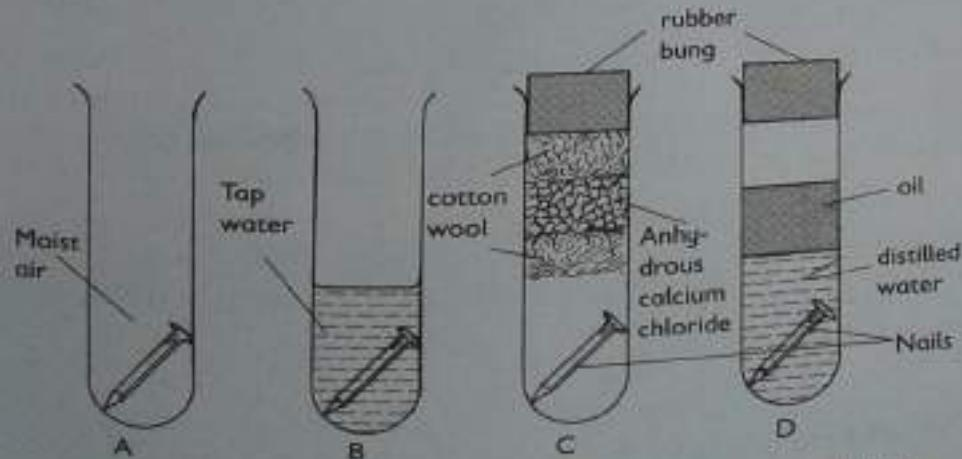

Fig 1.3: Set up for investigating conditions necessary for rusting
7. Add boiled or distilled water to test tube D. Add a layer of paraffin wax and close the tube as in Fig 1.3.